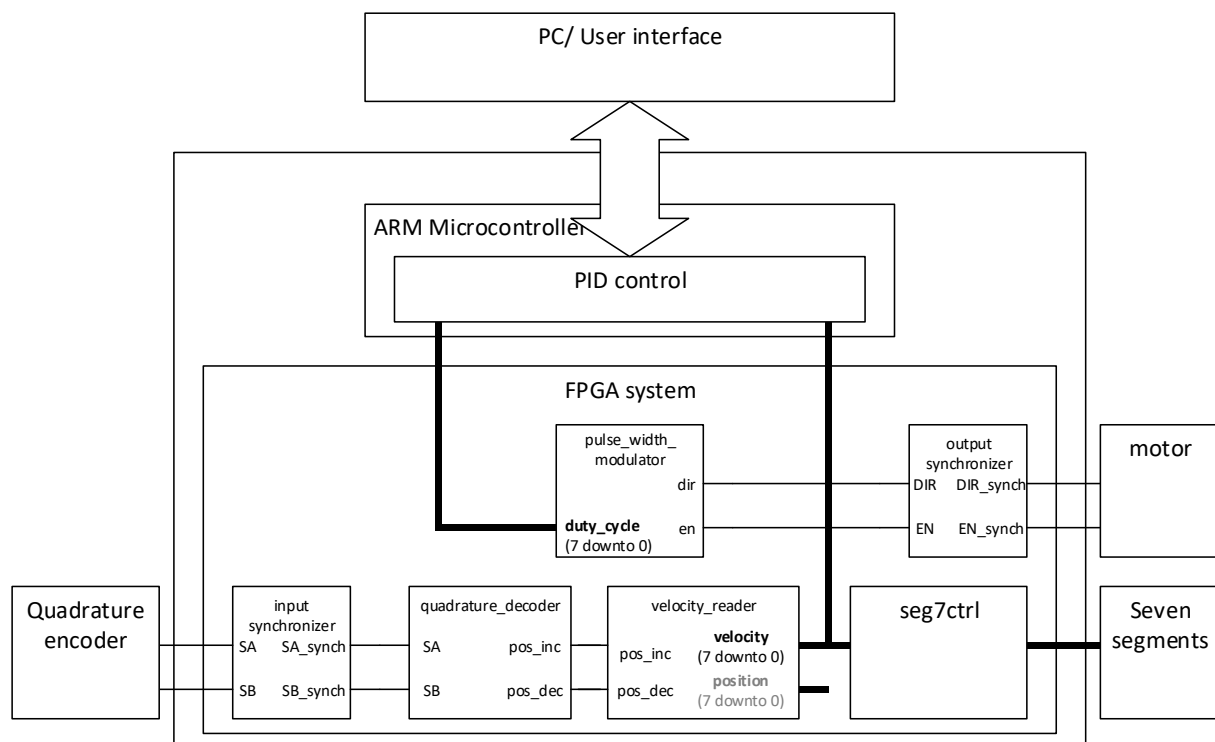
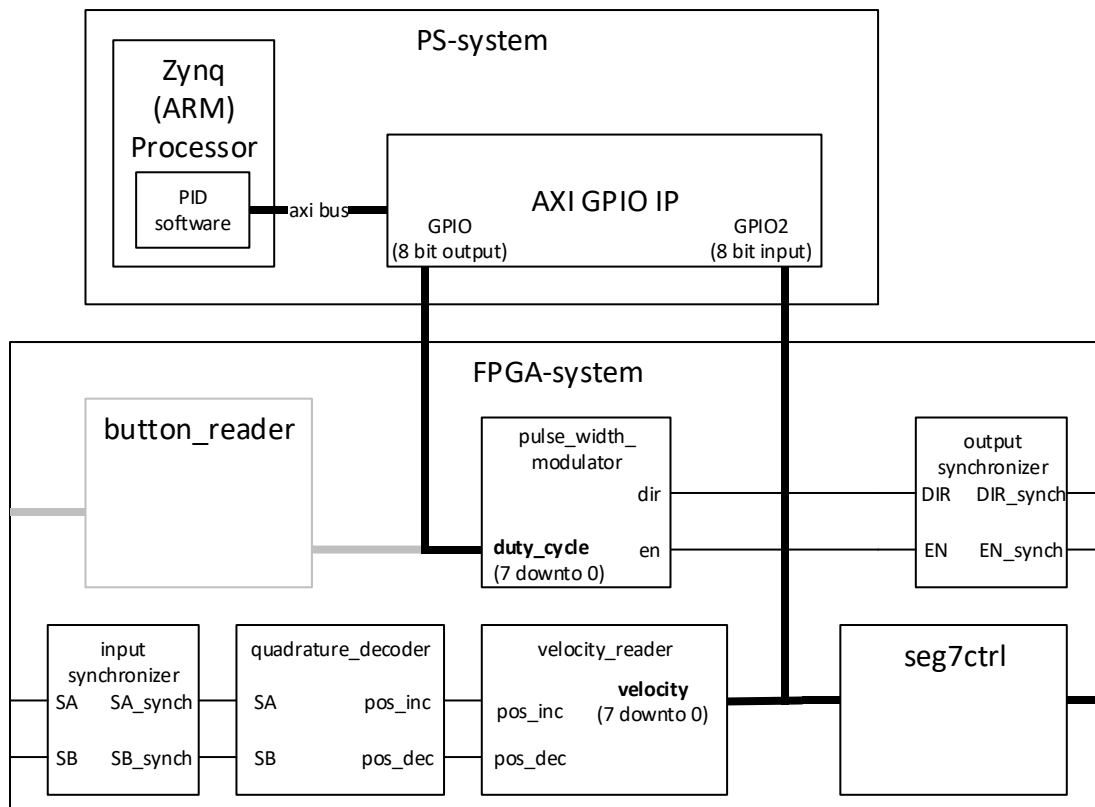

Figure 6. An overview of the control system.
Figure 7. System on Chip
An overview of the system to be implemented is shown in Figure 6. This is further broken down into components we will use in Figure 7.
*Modify the top module from oblig 8, to achieve an entity configuration as shown for the FPGA-system in Figure 7.*